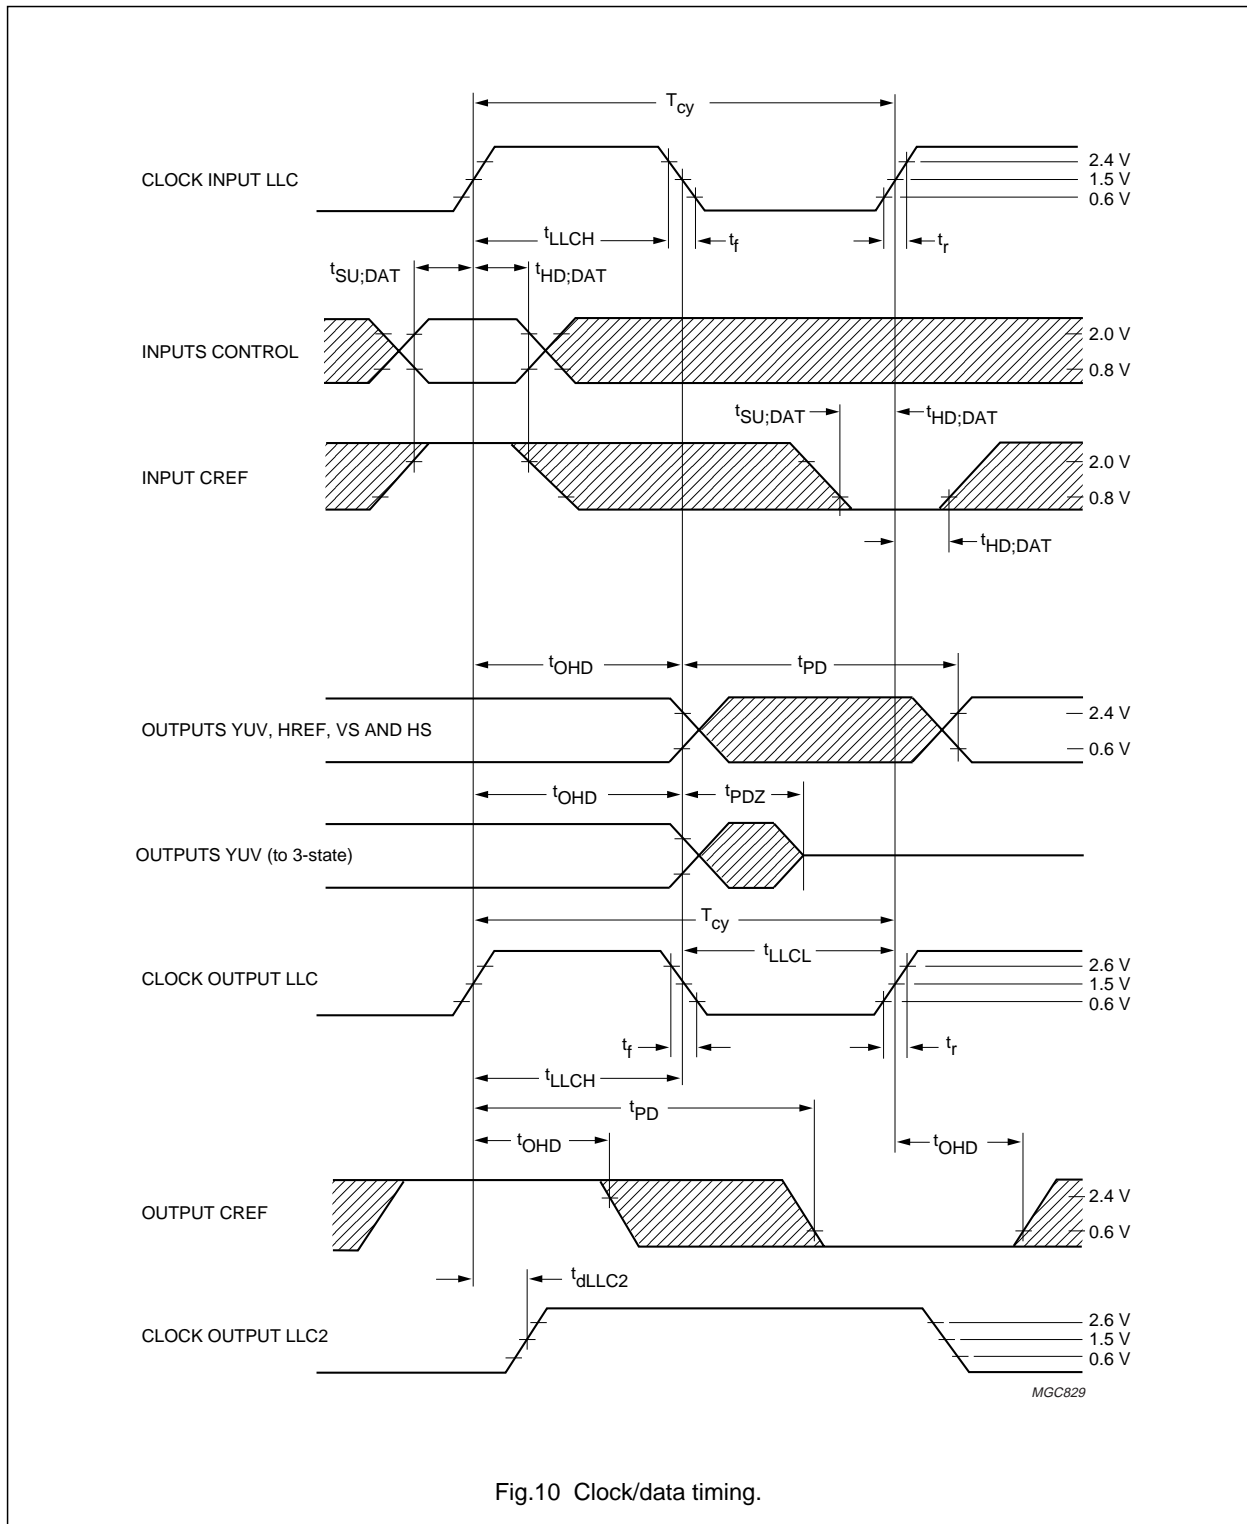

Fig.10 Clock/data timing.
- Data output signals are YUV (15 to 0). Control output signals are HREF, VS, HS, HSY, HCL, RTCO, PLIN (HL), ODD (VL) and GPSW0 (VBLK). The effects of rise and fall times are included in the calculation of $t_{HD;DAT}$, t_{PD} and t_{PDZ} . Timings and levels refer to drawings and conditions illustrated in Fig.10.